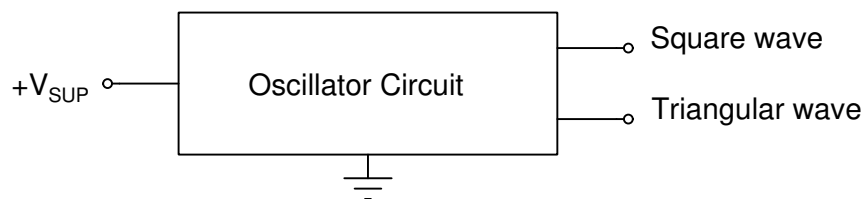
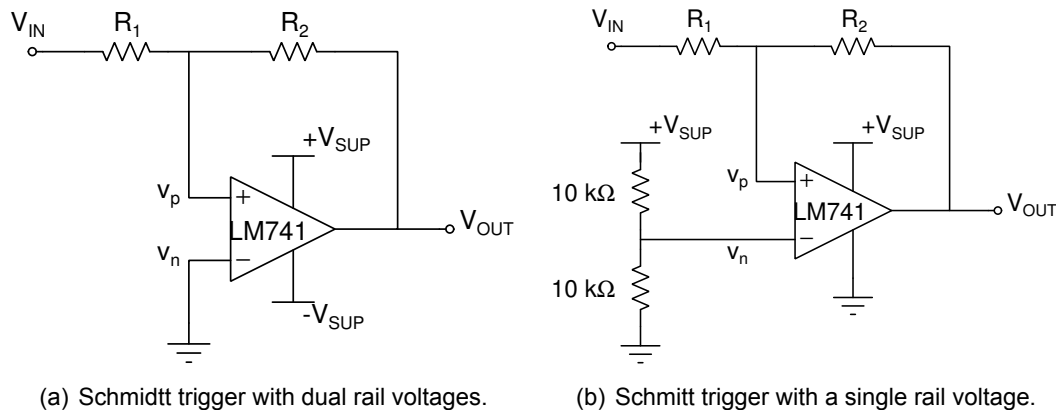
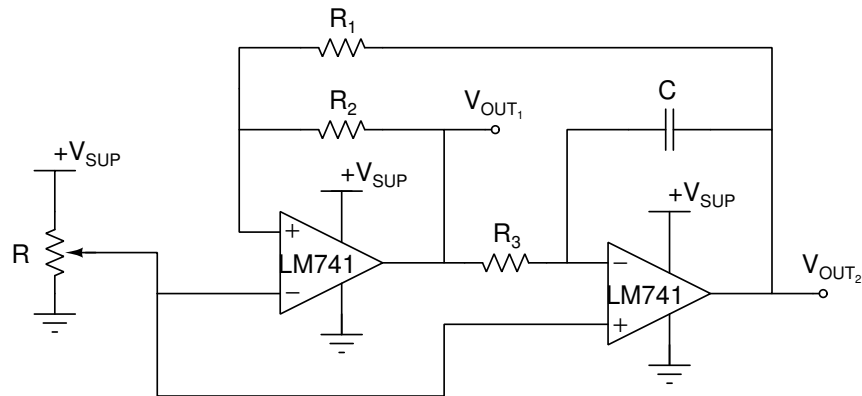

Figure 1: Block diagram of the oscillator circuit.
Figure 2: Schmitt trigger circuit using an Op Amp with positive feedback.
Figure 3: Oscillator circuit using a Schmitt trigger and an inverting integrator.
Introduction: Two LM741 Operational Amplifiers (OpAmps) are used to produce an oscillator. A system level block diagram is shown in **Figure 1**. The oscillator is formed by connecting the output of a Schmitt trigger, shown in **Figure 2**, to the input of an inverting integrator, and then connecting the output of the inverting integrator back to the input of the Schmitt trigger. The oscillator circuit is shown in **Figure 3**. The input to the circuit is a DC voltage of $+V_{SUP}$. The output of the circuit consists of a $\sim 10 V_{pp}$ square wave and a $\sim 5 V_{pp}$ triangular wave .
1. There are many ways to implement a Schmitt trigger. One method uses an OpAmp configured with positive feedback as shown in **Figures 2(a)** and **2(b)** for the dual-rail and single-rail OpAmp configuration, respectively. In both of these circuits, the output of the OpAmp (V_{OUT}) is connected through resistor R_2 to the **non-inverting** input (v_p) of the OpAmp. This results in an amplifier circuit with positive feedback.
Assume the OpAmp in **Figure 2(b)** is ideal. Analyze this circuit and derive an equation for the two trigger levels in terms of the resistor values R_1 and R_2 . When $R_1 = 3 \text{ k}\Omega$ and $R_2 = 12 \text{ k}\Omega$,
- For the Schmitt trigger circuit in **Figure 2(b)**, determine values for resistors R_1 and R_2 so that the separation of the Schmitt trigger levels are 5 ± 0.2 V. Assume the OpAmp is ideal and $+V_{SUP} = 12$ V. With the chosen values of R_1 and R_2 , what are the two Schmitt trigger levels?
- Simulate the transfer function of the Schmitt trigger circuit in **Figure 2(b)** with the resistor values you calculated in step 2. Set the power supply voltage ($+V_{SUP}$) to 12 VDC, and set the input voltage (V_{IN}) to a DC voltage source. Use DC analysis to sweep the input voltage between 0 to 12 V. A MATLAB® file for NGspice is available at https://ece214.davidkotecki.com/docs/Matlab/ECE214_2020_Lab5_Schmitt.m. Analyze the simulated behavior of the circuit using the ideal OpAmp and the LM741 OpAmp.
- Describe the function of the circuit shown in **Figure 3**. Assume the variable resistor is set to the mid-point resistance. Sketch the shape of the expected output signals V_{OUT_1} and V_{OUT_2} as a function of time.
8. Perform a transient simulation of the circuit of Figure 3 using the Ideal OpAmp. What is the simulated value of the oscillation frequency? What is the duty cycle? A MATLAB® file for NGSpice is available at https://ece214.davidkotecki.com/docs/Matlab/ECE214_2020_Lab5_Osc.m.
9. Perform a transient simulation of the circuit of Figure 3 using the LM741 OpAmp. Since the OpAmp is not ideal, the value of R_3 you calculated may be off by as much as 20%. Adjust the value of R_3 , if needed, to produce an oscillation frequency of $5 \pm 0.2 \text{ kHz}$.